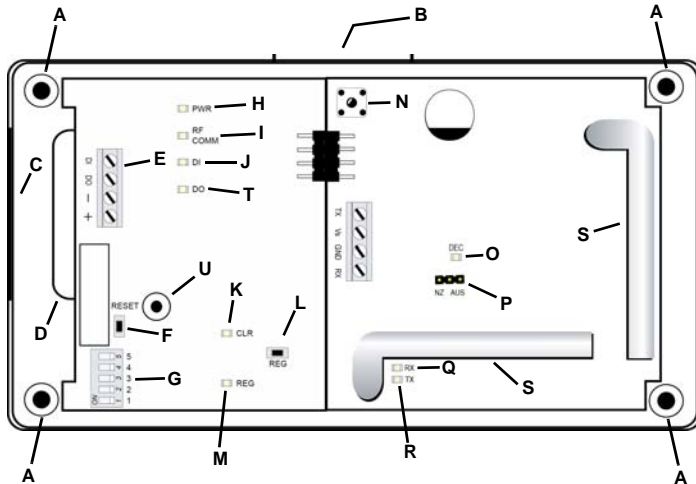
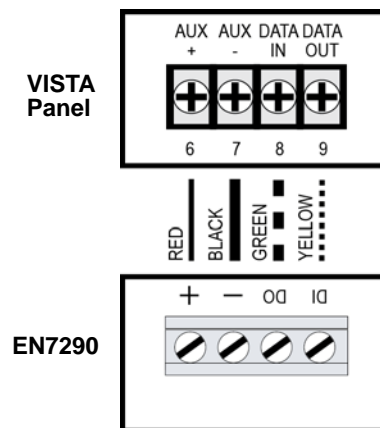

Figure 3 EN7290 receiver/interface internal components
Figure 4 EN7290 receiver/interface to VISTA panel cabling
1. Use a small screwdriver to press the housing release tab; separate the housing (figure 3, B).
2. Place a selection jumper on the appropriate frequency band selection pins (figure 3, P).
1. Referring to Figure 4, connect one end of a length of cabling to the EN7290 receiver/interface positive (+) screw terminal (figure 3, E); connect the other end to screw terminal 6 on the VISTA control panel.
3. Connect one end of a length of cabling to the EN7290 receiver/interface data out (DO) screw terminal; connect the other end to screw terminal 8 on the VISTA control panel.
4. Connect one end of a length of cabling to the EN7290 receiver/interface data in (DI) screw terminal; connect the other end to screw terminal 9 on the VISTA control panel.
6. Referencing Figure 5, set the device address DIP switches to an unused address (figure 3, G).
15. Toggle the housing tamper switch to ensure the receiver/interface is ready to enter registration mode (figure 3, N).
16. Referring to Figure 3, "EN7290 receiver/interface internal components" on page 2, press the registration button (figure 3, L).
19. When all devices have been registered, press and release the housing tamper switch (or replace the housing). You can also press the reset button to exit registration mode (figure 3, F).